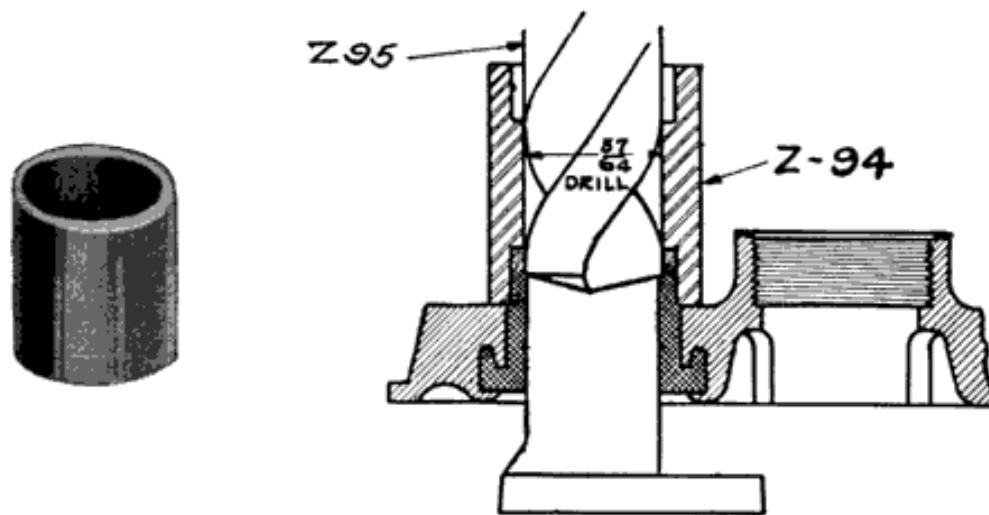

Fig. 280. Willard Jig Z-94, and How it Is Used
3. With a  $57/64$  inch drill, and Willard jig Z-94 (Fig. 280), drill down to release the post from the cover insert.